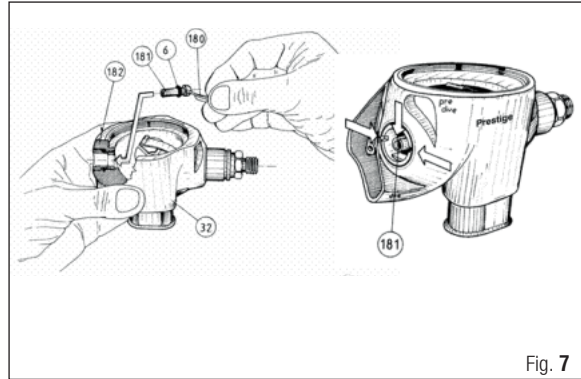

Fig. 7
THE DPD HOUSING (182) SHOULD BE SCREWED SNUGLY, CHECKING THAT THE GROOVE IS PERFECTLY ALIGNED WITH THE REFERENCE ON THE SECOND STAGE BOX (32) AS SHOWN IN FIG. 7